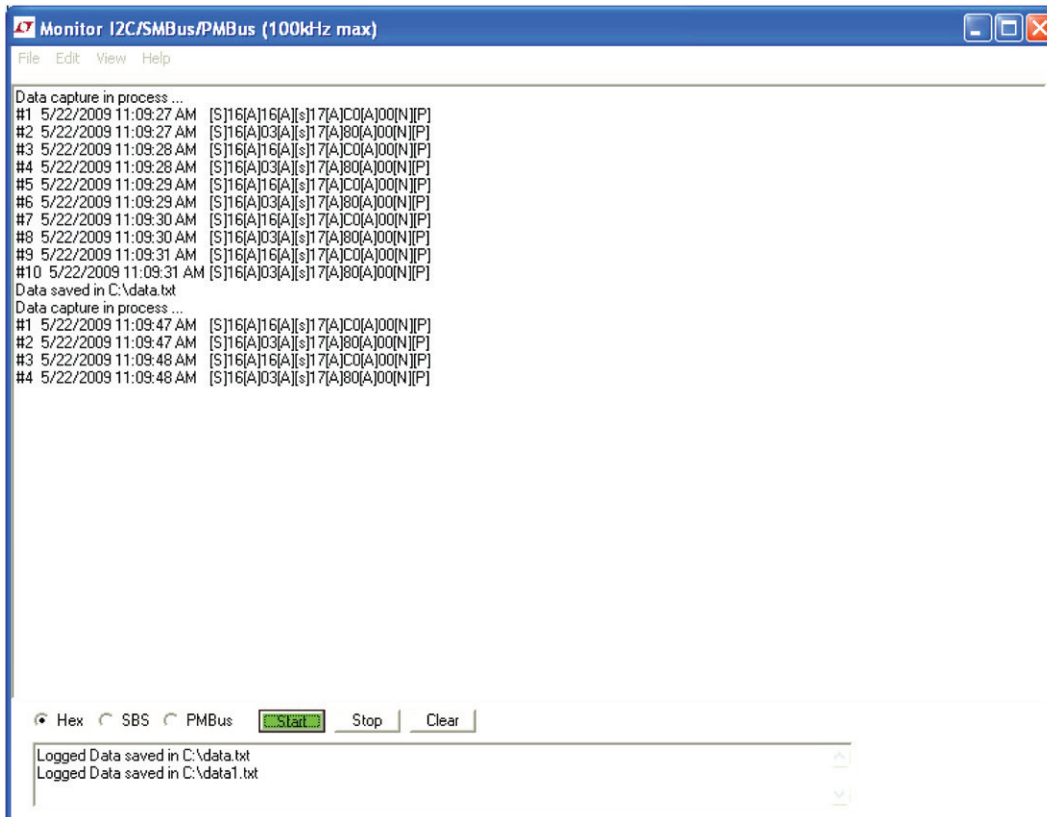

Figure 5. General User Interface SMBus Monitor Mode
8. To go into SMBus Monitor mode, go to Tools → Monitor. You will see the windows in Figure 5. For more detail instructions go to Help → Help Topics.